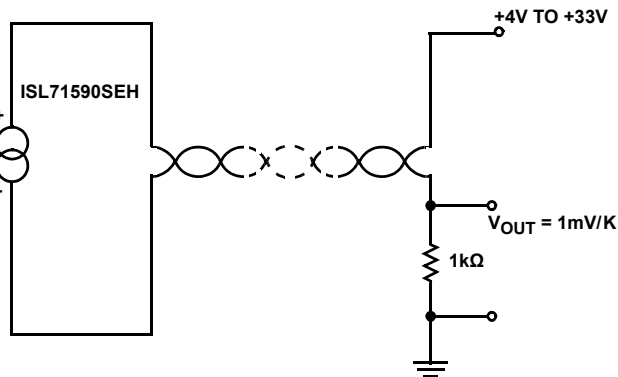

FIGURE 2A.
Connecting just a single ISL71590SEH and resistor as shown in Figure 2A provides the simplest single temperature sensing implementation. The resulting over-temperature output current is shown in Figure 2B illustrating the 1µA/Kelvin (K) linear performance across the entire operating range of temperature.